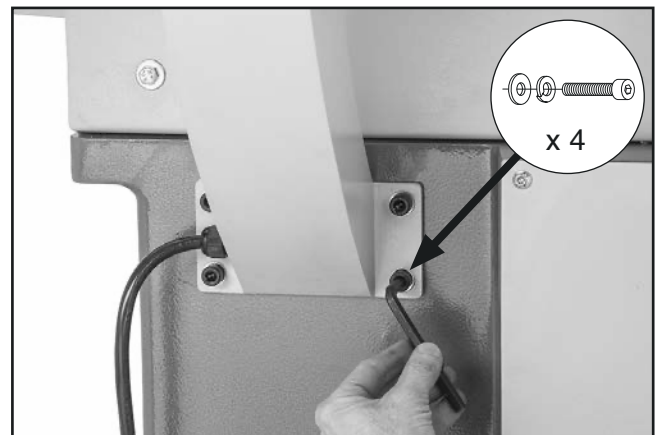

Figure 15. Securing control panel pedestal.
- Secure control panel pedestal to jointer with (4) M10-1.5 x 30 cap screws, (4) 10mm lock washers, and (4) 10mm flat washers, as shown in **Figure 15**.